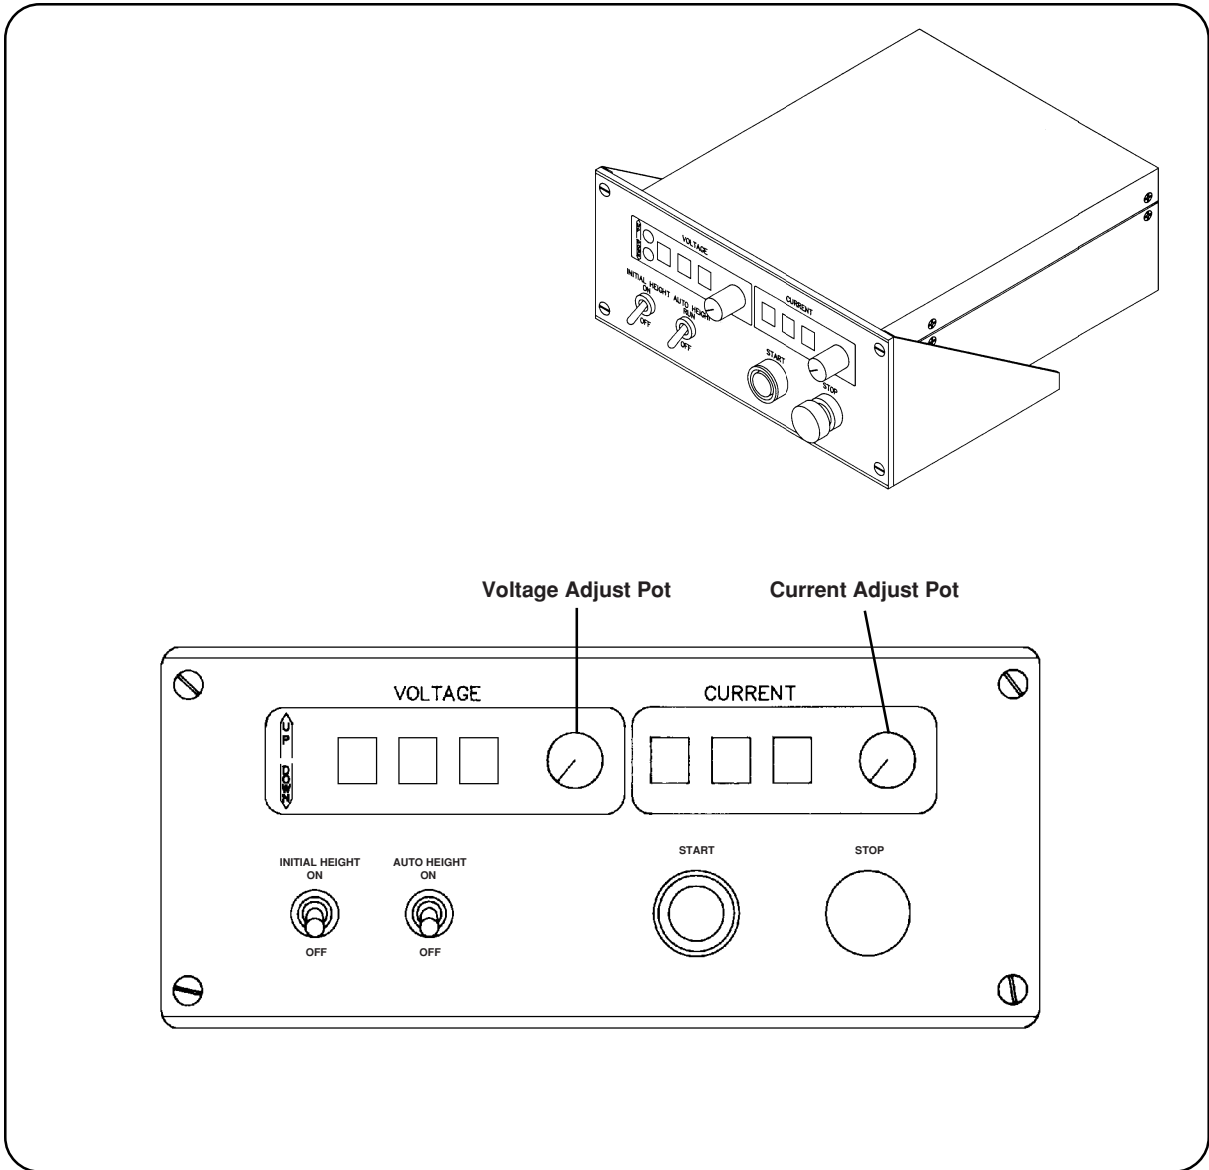

Figure 3-5A Switch Remote (SR) V/C Front Panel Controls and Indicators
### Switch Remote (SR) V/C Module (Fig. 3-5A)